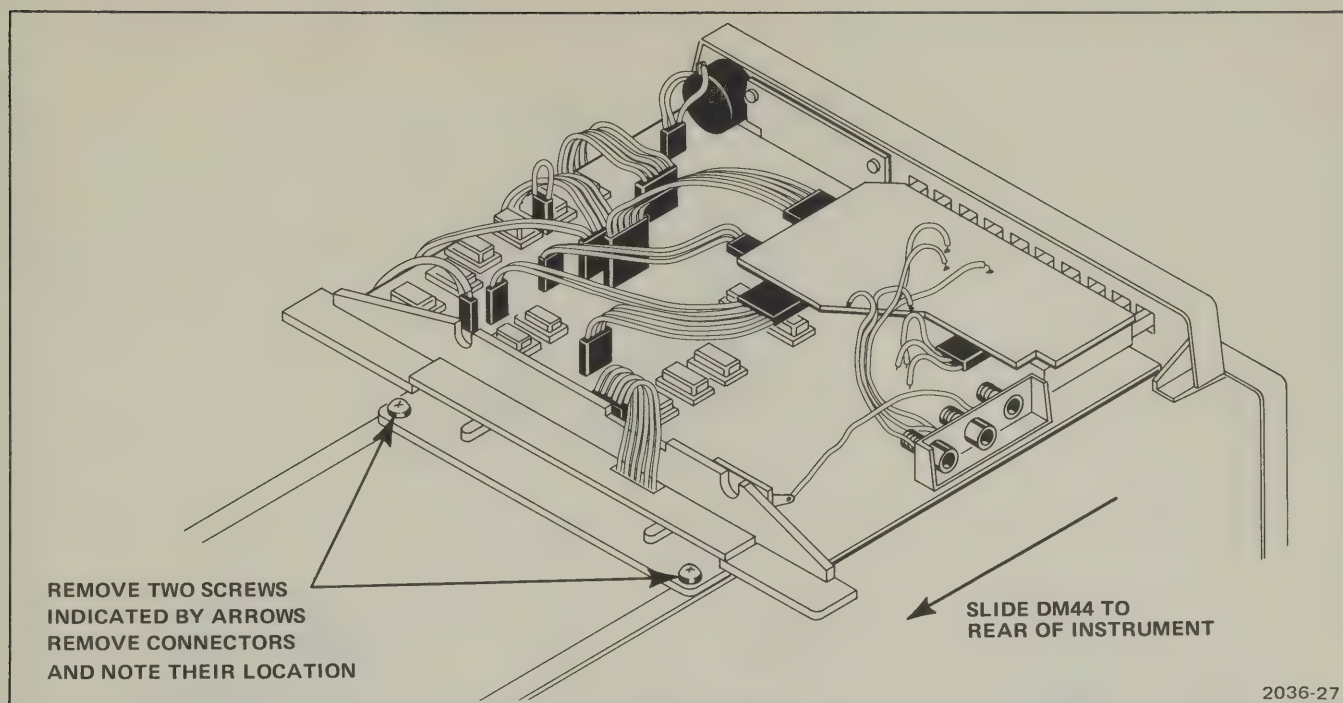

Fig. 5-3. DM44-Oscilloscope separation.
4. Remove two screws from the rear of the DM44 (see Figure 5-3).
5. Slide the DM44 toward the rear of the oscilloscope. While guiding the ribbon cable through the hole at the rear of the DM44, lift the DM44 away from the oscilloscope (see Figure 5-3).